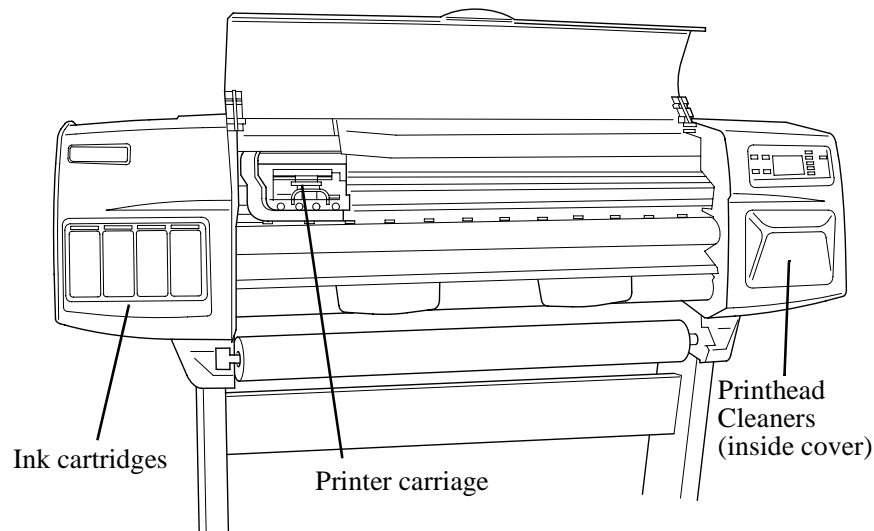
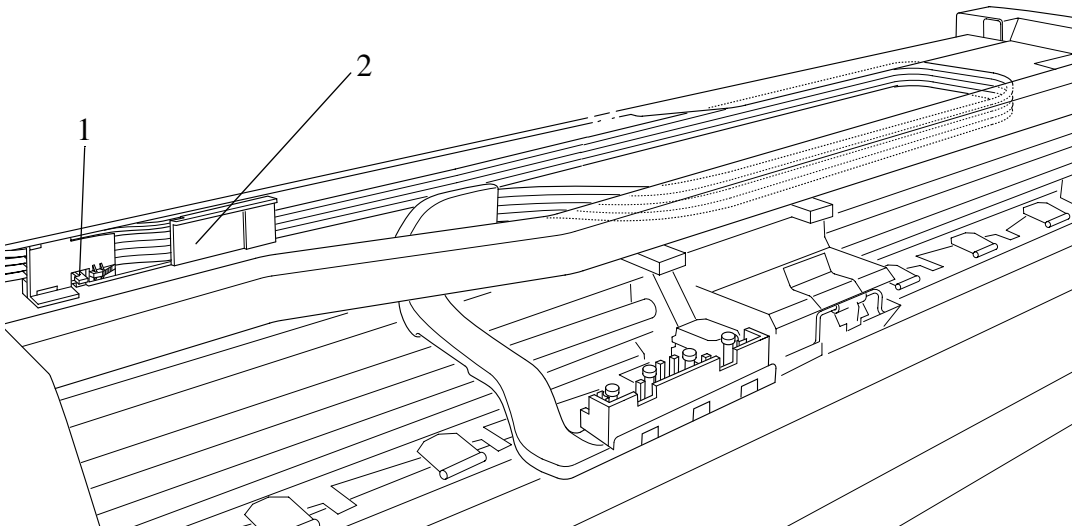

Figure 59: Printer Carriage Location
Figure 70: Tube Retaining Clip
Refer to Figure 59 to Figure 70.
- 14.** Push the tab (item 1) towards you and then push the complete tube retaining clip (item 2) to the right and then pull towards you (refer to Figure 70)